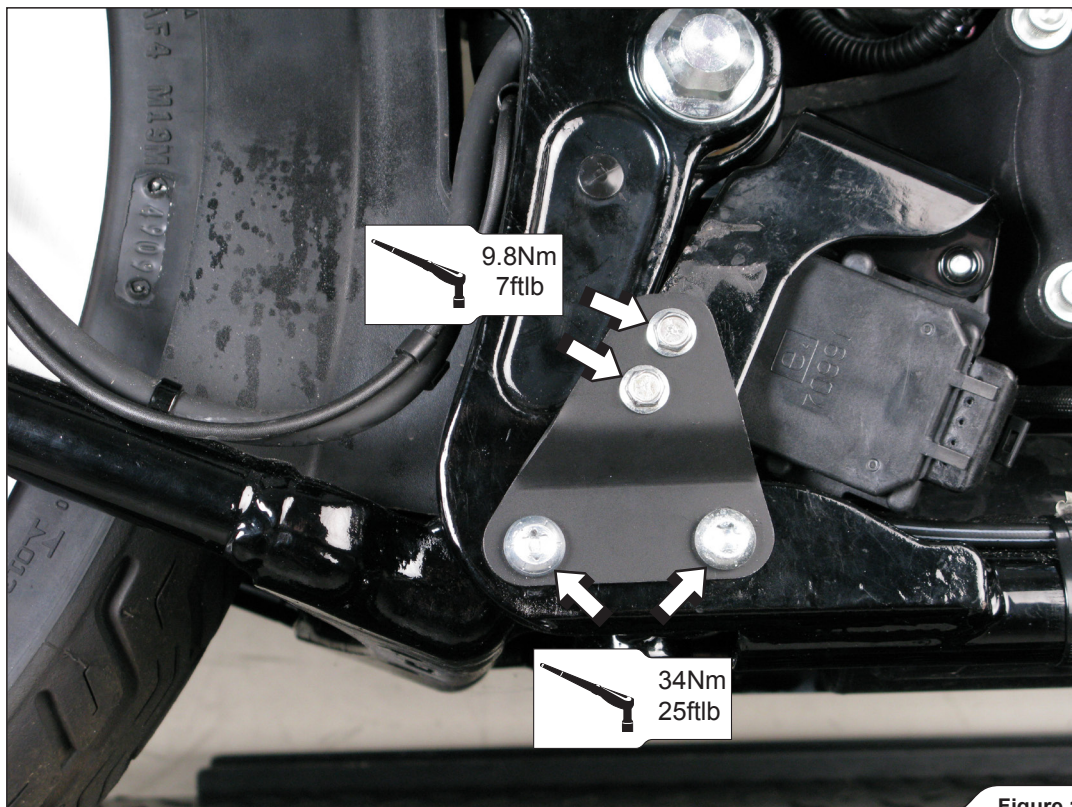

Figure 1
1. For models with mufflers' bracket mounted exhaust valve servo motor only: attach the servo motor to the additional Akrapovič bracket, using original bolts and install the bracket onto the frame, using bolts (3/8x3/4 inch) and washers from Akrapovič installation kit (Figure 1).